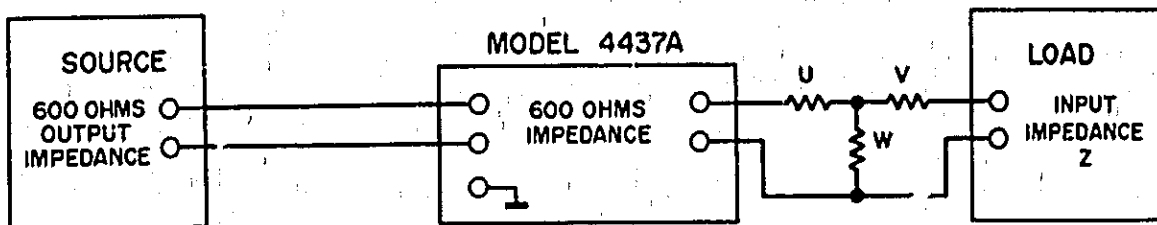
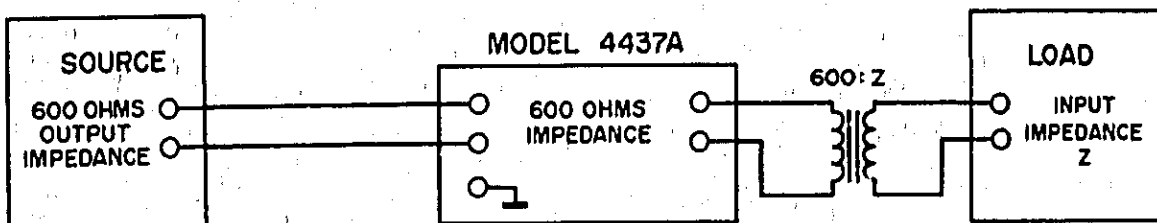

Figure 3-12. Output Matching with Resistive Network
Figure 3-13. Output Matching with Transformer
- c. Resistive matching networks or matching transformers may be used to provide the Model 4437A and its load with an impedance match. Figure 3-12 shows impedance matching with matching network and Figure 3-13 shows impedance matching with transformer. Network data and connections are given in Figure 3-9 and Table 3-1. Similarly in matching at the INPUT, the insertion loss of the resistive network or the transformer should be taken into account.